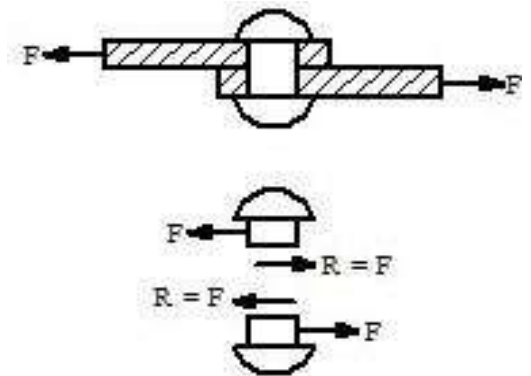

Fig. 1.4
**Shear Stress:** Internally developed force per unit area acting parallel to the cross-section is called shearing stress (Fig. 1.4). It is represented by the symbol (*Tau*)  $\tau$ . Its unit is N/m2.